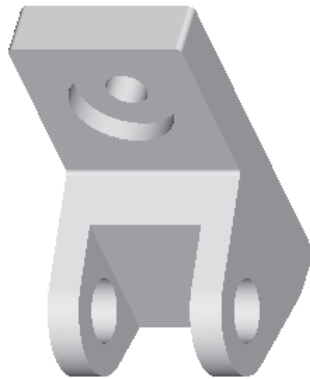

Figure 5-67 Final model for Tutorial 3
- e. Create the round as shown in Figure 5-67.
7. Choose **OK** from the **ROUND** dialog box. The trimetric view of the final model with round feature created is shown in Figure 5-67.